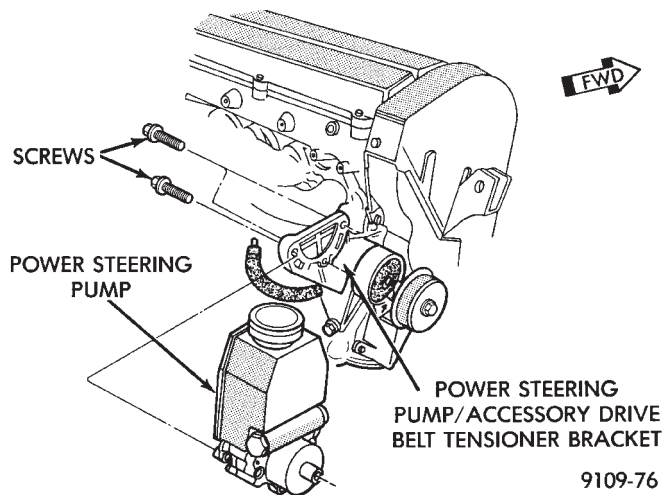

Fig. 11 Power Steering Pump Attaching Bolts
- (3) Remove Timing Belt covers. Refer to procedure outlined in this section.
- (4) Remove Power Steering Pump bolts set pump aside (Fig. 11).
(6) Install power steering pump on bracket tighten bolts to 28 N•m (250 in. lbs.) torque (Fig. 11).
(7) Install timing belt covers. Refer to procedure outlined in this section.